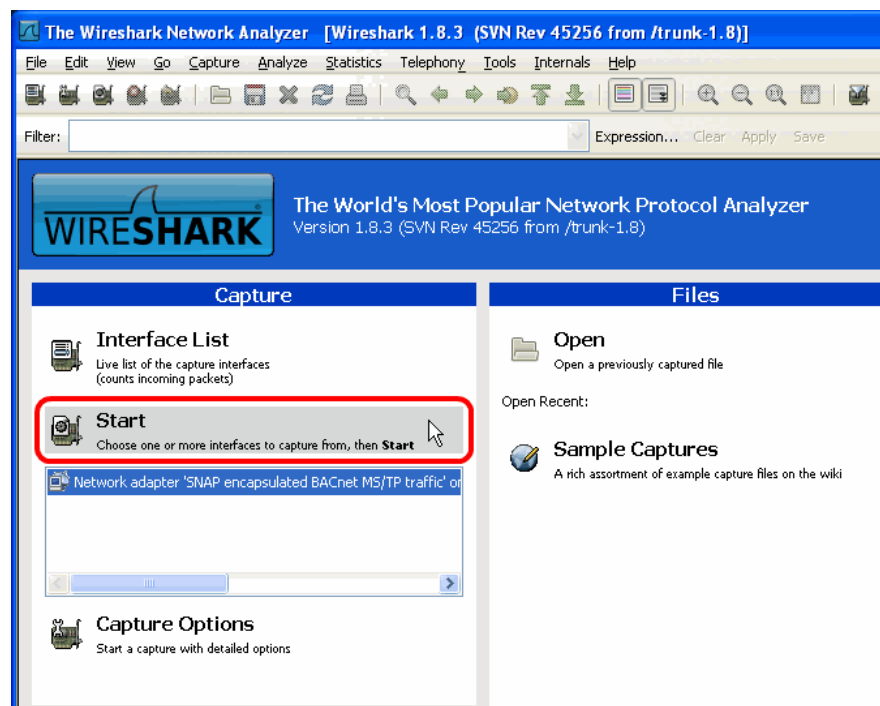

Figure 322: Start Remote Capture in Wireshark.
2. Click the **Start** button as shown in Figure 322.